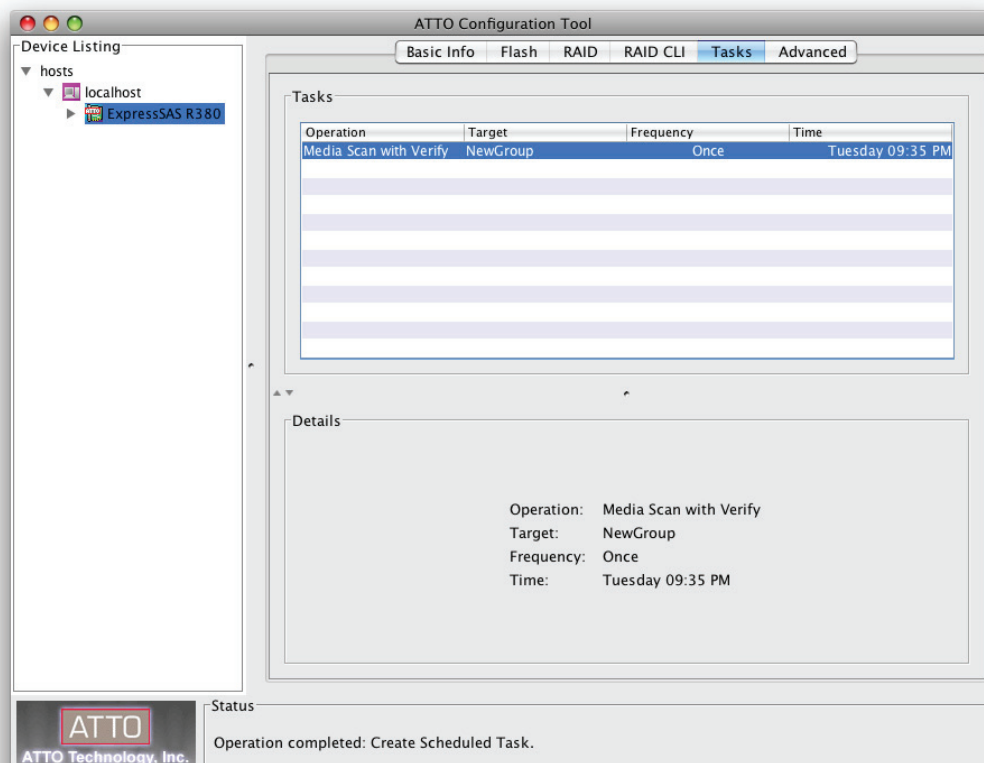

Figure 6
- The **Tasks** tab provides information about user-scheduled hard drive health maintenance. See **Figure 6** on page 5.